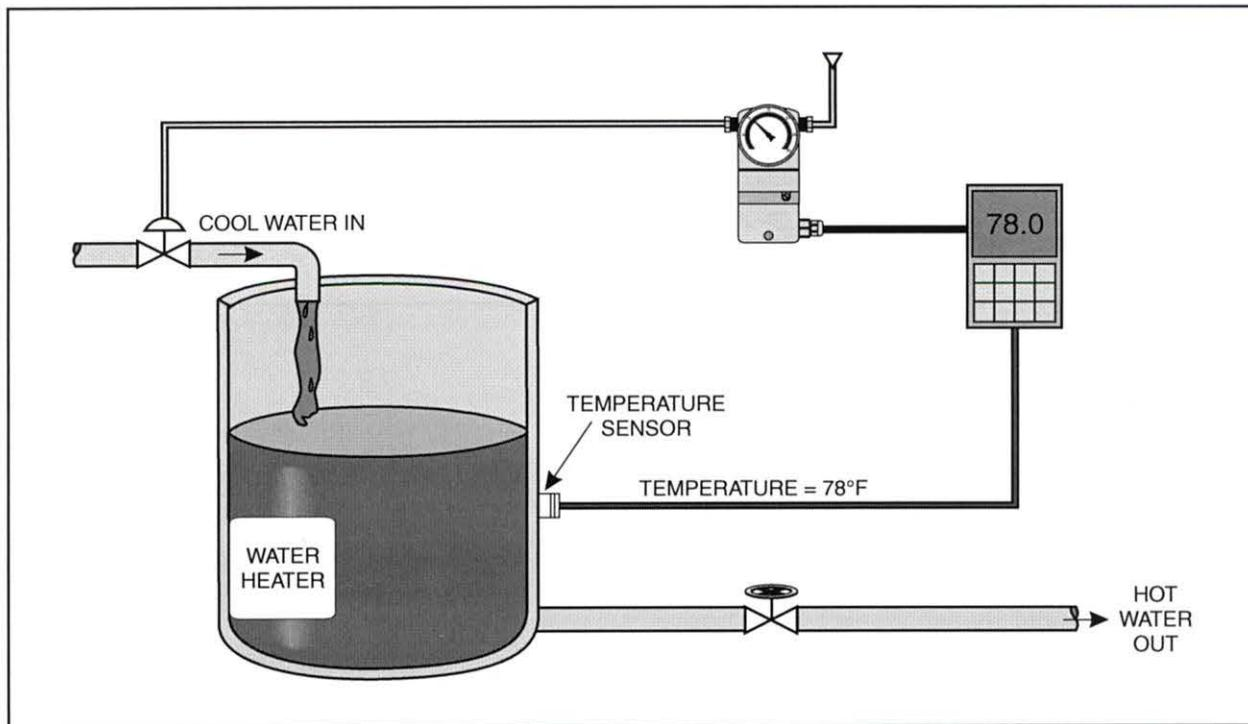

Figure 14. Temperature Control Process with Temperature at 78°F
- 1. Determine the accuracy of the process shown in figure 14 as a factor of the measured variable, given the following information: